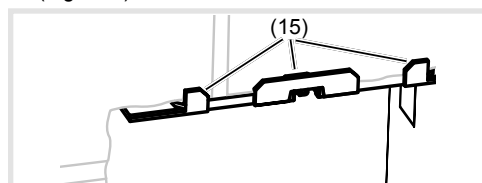

Figure 4: Installation position of fastening elements
I The support bracket (15) of the fastening elements must be located on the wall surface (Figure 4).